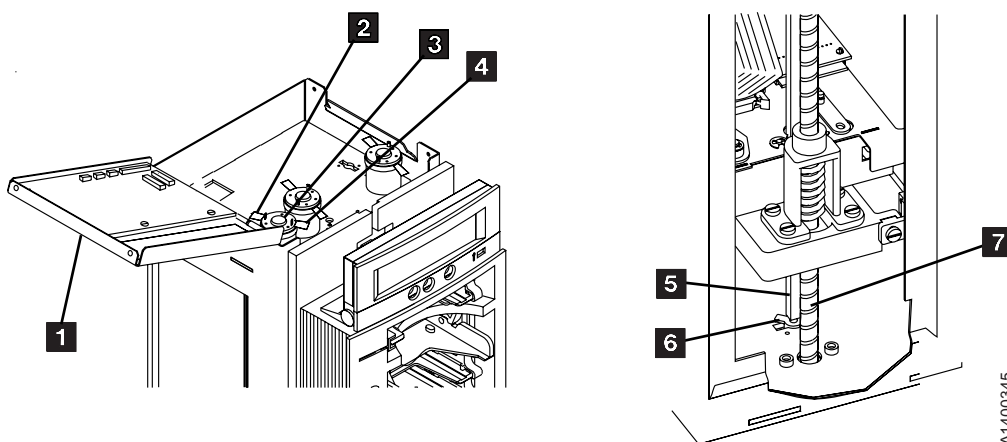

Figure 10-12. Elevator Motor Assembly
4. See Figure 10-12. Rotate the elevator leadscrew **7** to position the elevator assembly all the way to the bottom of the ACF.
9. See Figure 10-12 on page 10-20. Open the ACF top cover **1**. See "ACF Top Cover" on page 9-31.